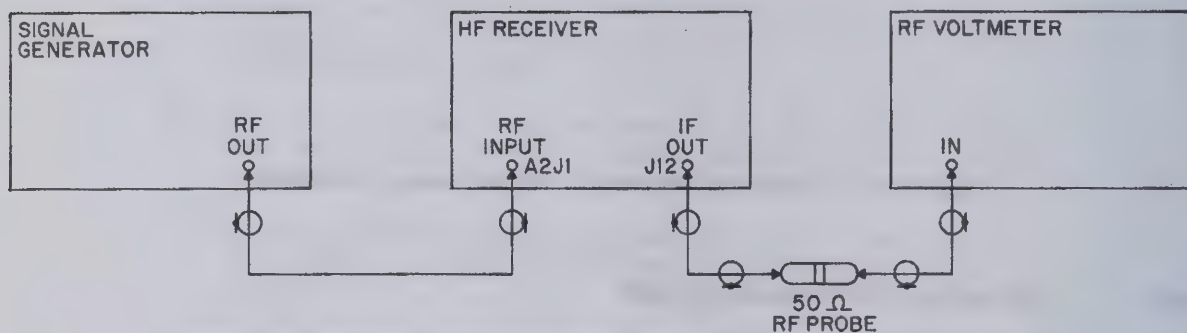

Figure 4-3. S/N Ratio Performance, Test Setup
1. Connect the test equipment to the receiver as shown in Figure 4-3.